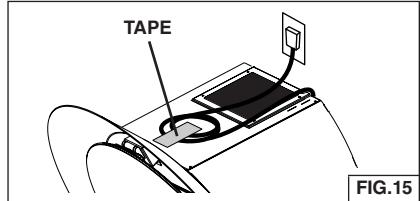

FIG.15
12. Plug power cord into 120 VAC receptacle. Fig. 15.